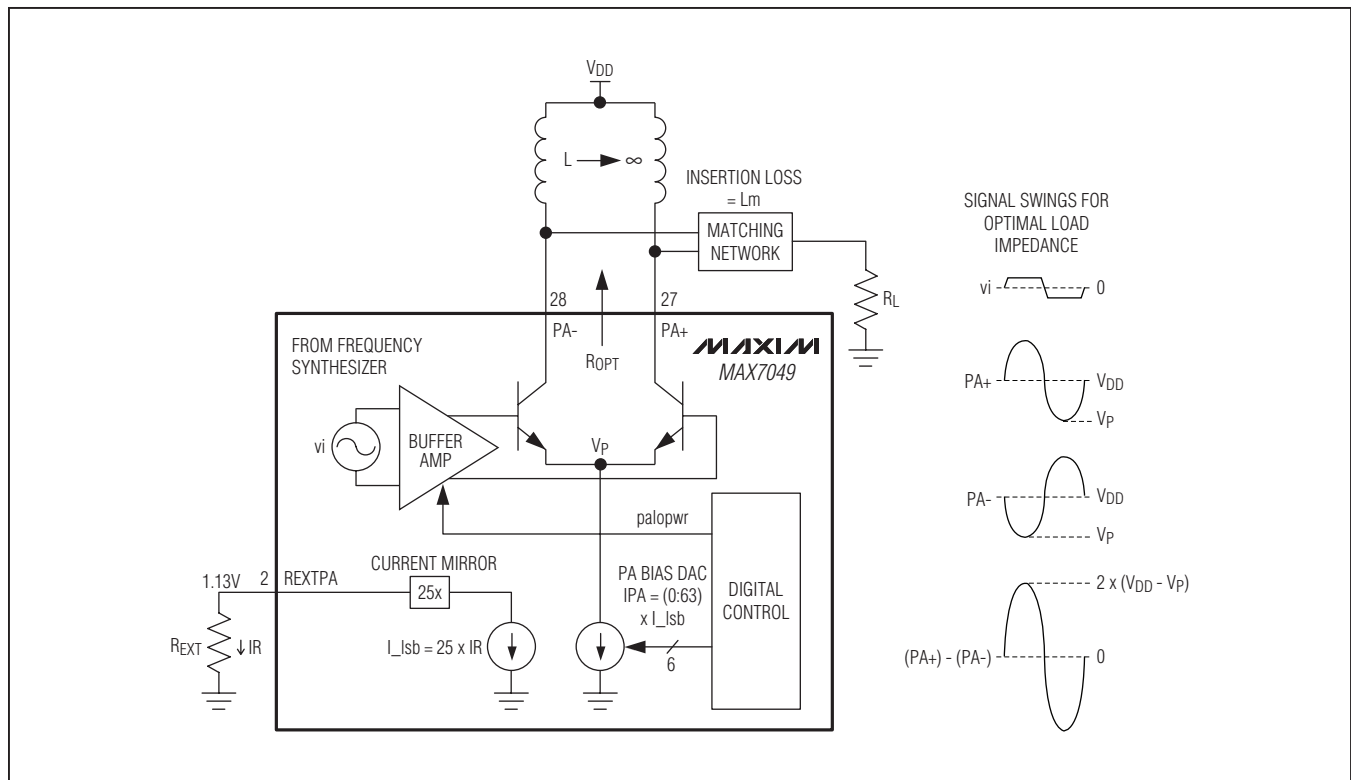

Figure 20. Power Amplifier Topology and Optimum Signal Swings
The IC contains a programmable current-drain, high-efficiency power amplifier (PA). The PA is a differential output stage capable of delivering more than +15dBm to a 50Ω load including the losses of the matching network and harmonic filter. The bias current for the PA (IPA) is configurable in 64 linear steps, as illustrated in Figure 20.